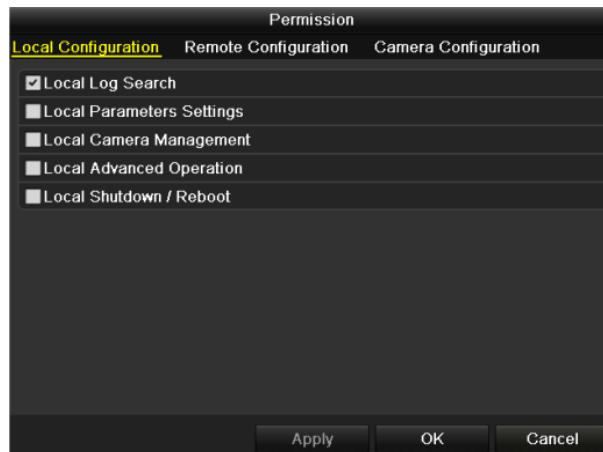

Figure 16-8 User Permission Settings Interface
Step 6 Select the user from the list and then click the icon to enter the Permission settings interface, as shown in Figure 16-8.